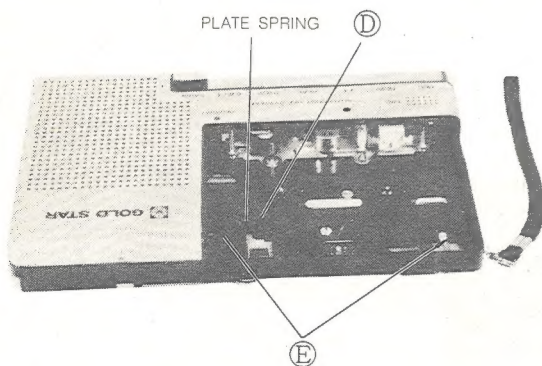

Fig. 4
2. Remove 2 screws (E) and lift up the deck mechanism in direction of arrow. (See Fig. 4, 5)